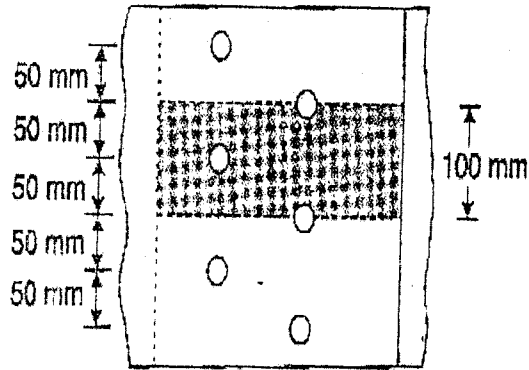

Fig. 2a
- (a) Determine the strength and efficiency of the lap joint shown in Fig. 2a. The bolts are of 20 mm diameter and of grade 4.6. The two plates to be jointed are 10 mm and 12 mm thick. Use steel of grade Fe 410.